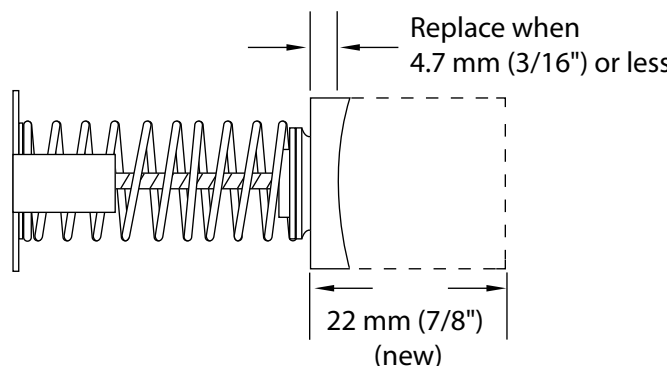

Figure 11. Brush Inspection
- C. The brush assemblies must be replaced if they are 4.7mm (3/16") long or less. See Figure 11.